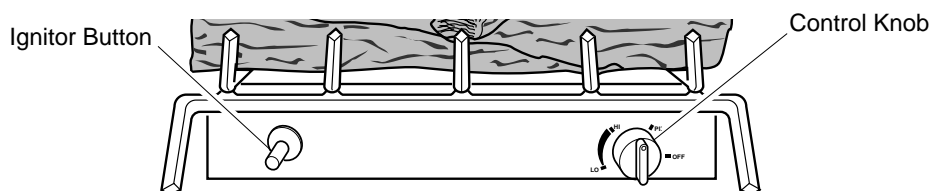

Figure 22 - Control Knob and Ignitor Button Location
- Wait five (5) minutes to clear out any gas. Then smell for gas, including near the floor. If you smell gas, **STOP!** Follow "B" in the safety information in column 1. If you don't smell gas, go to the next step.
- Slightly depress and turn control knob counterclockwise  to the **PILOT** position. Keep control knob pressed in for five (5) seconds (see Figure 22).